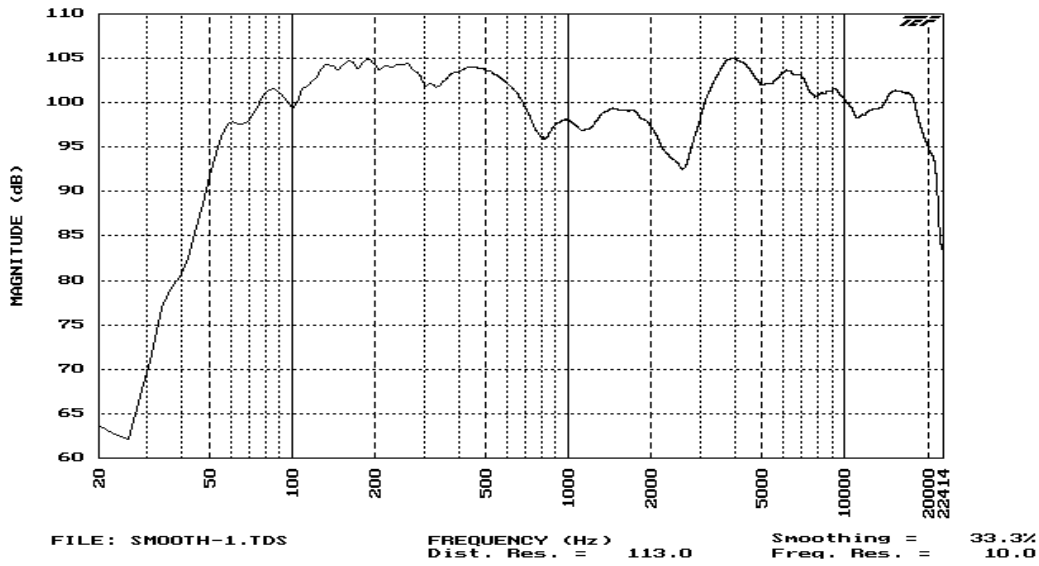

Figure 4. 33.3% (1/3 Octave) Smoothing
**Figure 4** shows 33.3% smoothing - equivalent to 1/3 octave smoothing. It is clear that some of the detail is lost but the general shape of the curve remains the same.